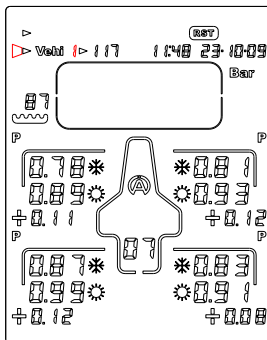

Figure 15
- 2) With the button  or , select the icon « **Vehi** » (figure 15)
- 3) With the button  or , select the vehicle wanted (figure 15)